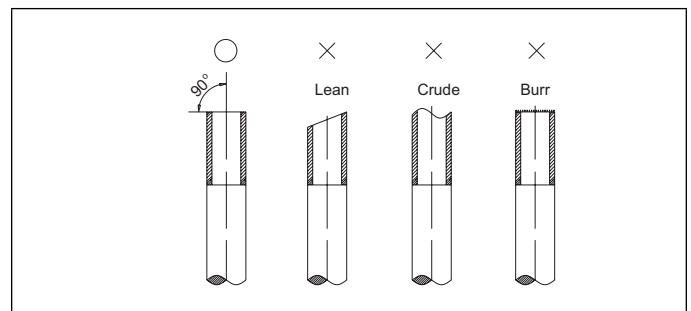

Figure 30. Cutting Piping
4. Cut the selected pipes with a pipe cutter. Make the cuts flat and smooth as illustrated in "Figure 30. Cutting Piping".